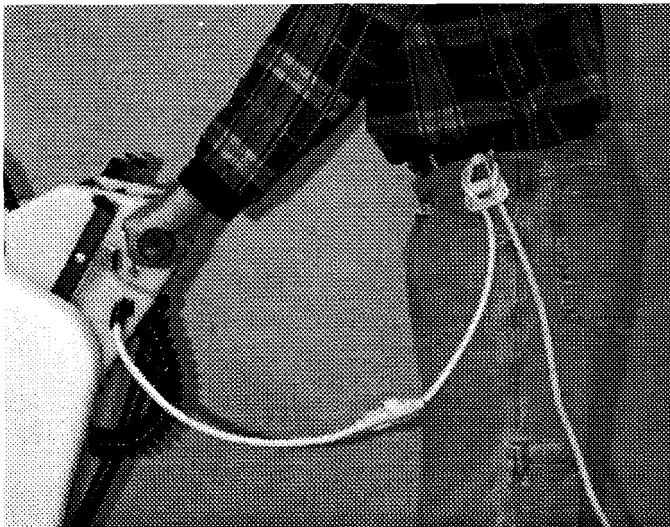

Fig. 6
3. Attach belt clip to power cord and to your belt. (Figure 6)